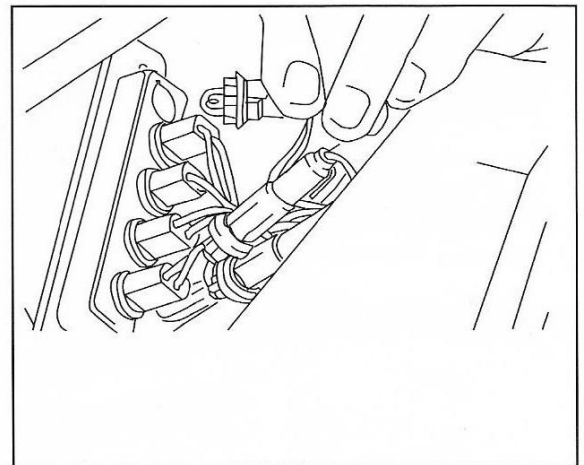

Fig. 122
1. With the warning panel removed (Fig. 122), turn the failed bulb and its holder counter-clockwise and withdraw it from the panel assembly.